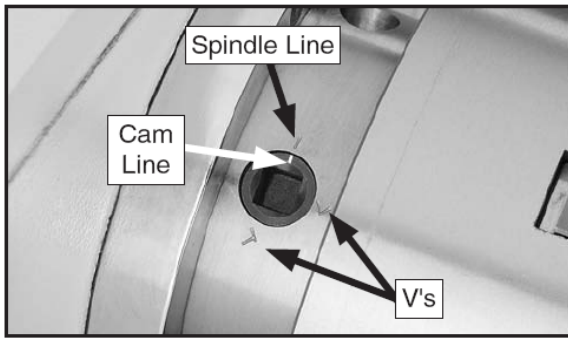

Figure 11
3. Loosen the cam-locks by turning the key counterclockwise approximately one-third of a turn until the mark on the cam-lock aligns with the single mark on the spindle nose in Figure 11. If the cam-lock stud does not freely release from the cam-lock, wiggle the cam-lock until the cam-lock stud releases. Note: These cam-locks may be very tight. A breaker bar may be used to add leverage.